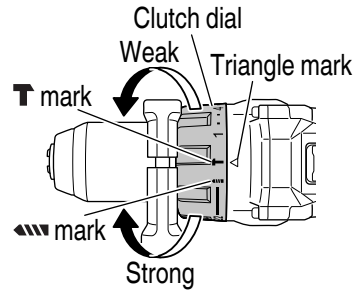

Fig. 15
<DV18DC / DV36DC> (See Fig. 15)
- (2) Tightening torque indication (See **Fig. 13 on page 47**, **Fig. 15**)
- (3) Adjusting the tightening torque (See **Fig. 13 on page 47, Fig. 15 on page 48**)